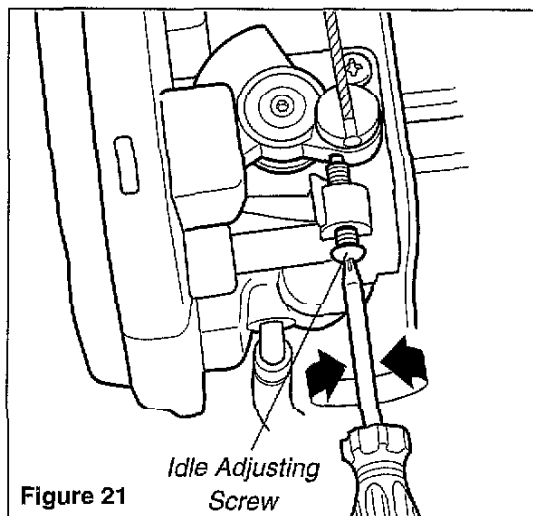

Figure 21
2. If the attachment rotates when the engine is at idle, reduce the idle speed by turning the idle adjustment screw counter-clockwise. See Figure 21.